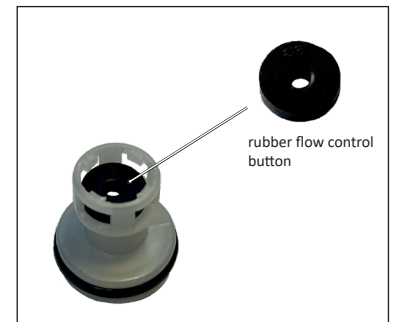

Figure 4
Step 2: Examine the bottom of the brine elbow and confirm that the flow control is installed. The flow control is easily visible on the underside of the brine elbow and will appear off-white in color. Inspect the center hole of the flow control. The black rubber flow control button should also be visible (see figure 4 for reference), though more difficult to see.